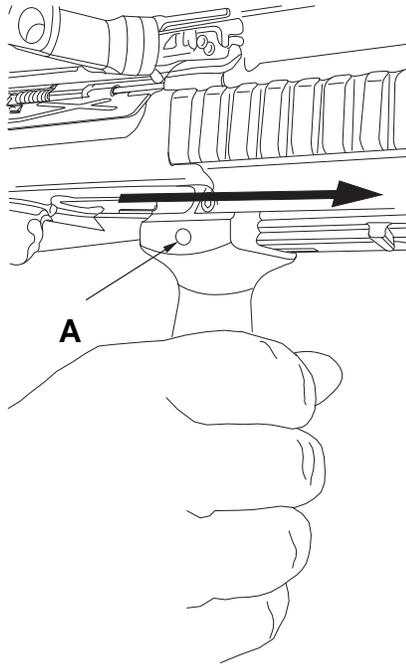

Figure 5
(6) Loosen the O-ring clutch on the bottom of the vertical pistol grip.
(7) (Figure 5) Install the vertical pistol grip on the bottom rail by sliding it from the rear to the front until the locking lug of the vertical pistol grip lines up with a slot on the adapter rail. Adjust accordingly to the length of the operator's arm. View rail slot through hole in vertical pistol grip (A).